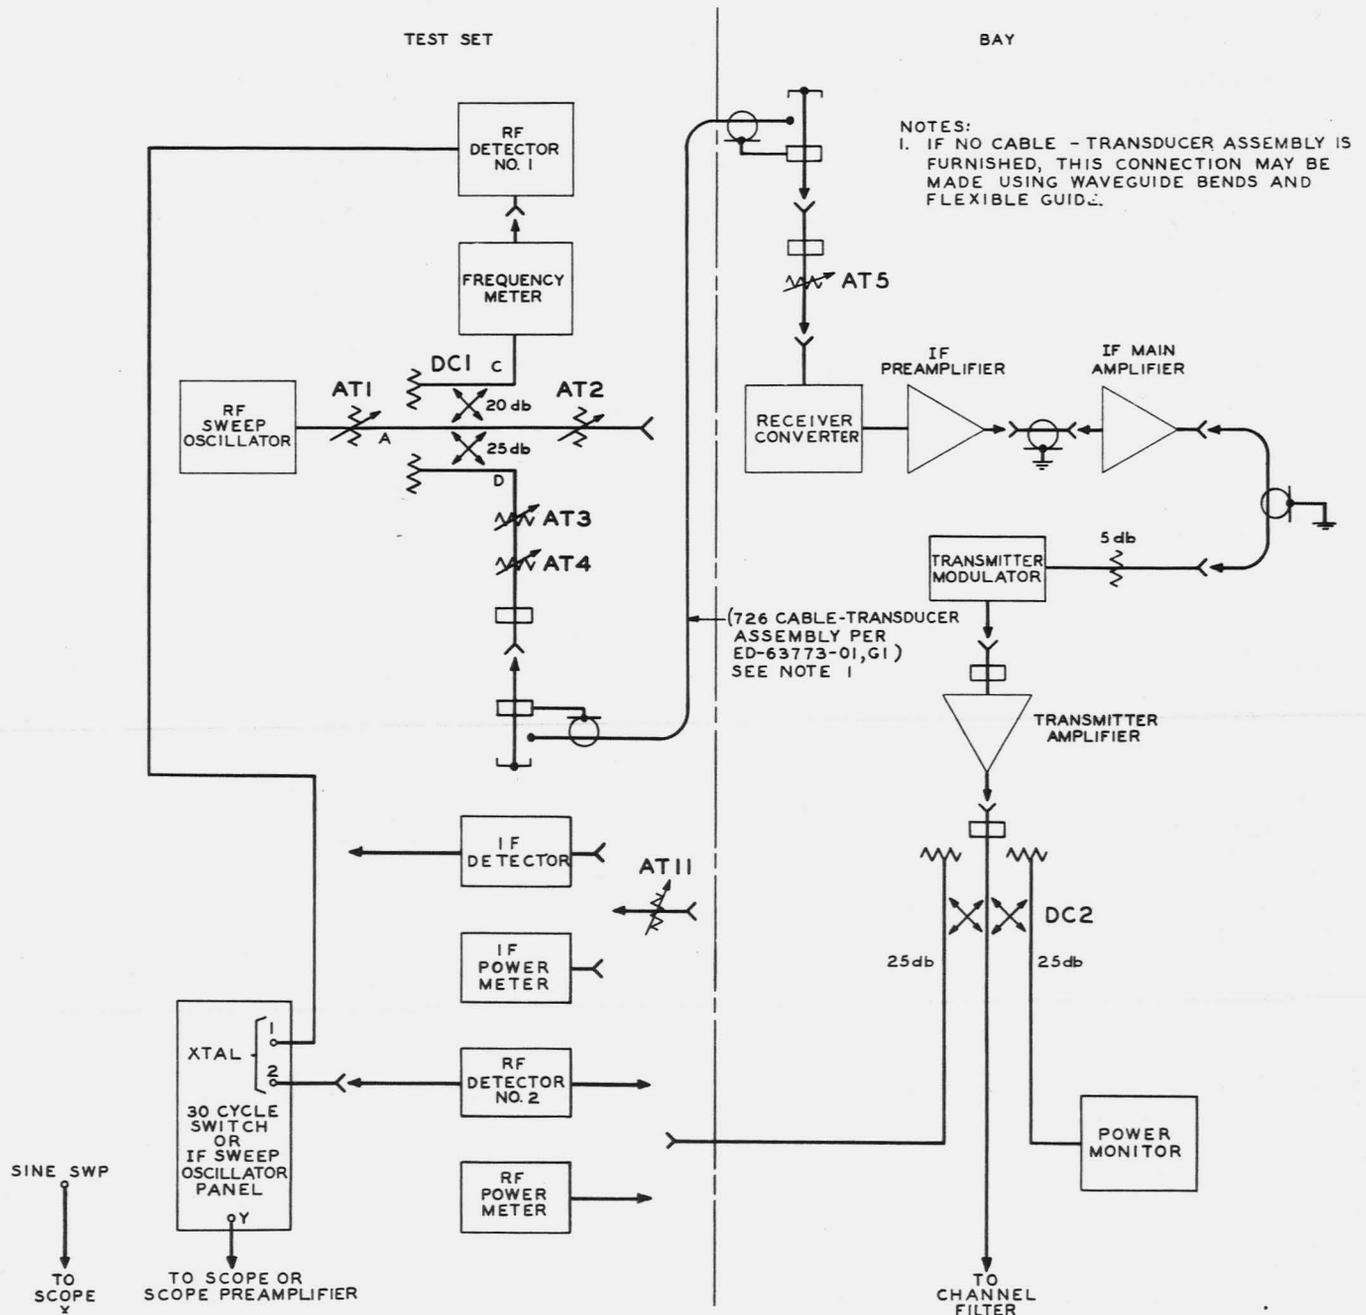

Fig. 1 - Arrangement for Gain-frequency Test of Over-all Radio Transmitter-Receiver Bay
(1) Set up the equipment associated with the J68340A Test Bay as in Fig. 1. This will require disconnecting the receiver converter from the channel separation filter. The exposed output of the channel separation filter should be terminated with the waveguide termination which is removed from the output directional coupler in order to make the connection for the output power measurement.
(2) Set AT2 to 20 db.
(3) Connect the RF power meter to the output of AT2.
(4) With the SWEEP switch on the RF sweep oscillator operated to OFF,
- (1) Set up the equipment as shown in Fig. 1 with the modulator disconnected from the transmitter amplifier.
- (2) Make connection from the test bay to the converter input with AT5 removed.
- (3) Connect AT5 to the output of the modulator, and set it to 7 db.
- (4) Set AT2 to 20 db.
- (5) Connect the RF power meter to the output of AT2.
- (6) With the SWEEP switch on the RF sweep oscillator operated to OFF, set the oscillator frequency to the center of the receiver band, and adjust AT1 to make the power meter read +3 dbm.
- (7) Set AT3 to 12 db and AT4 to 10 db.